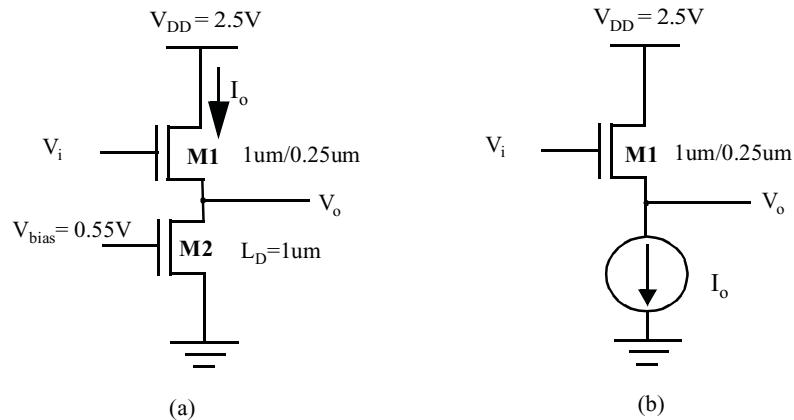

Figure 5.7 NMOS source follower configuration
9. The circuit in Figure 5.7 is known as the *source follower* configuration. It achieves a DC level shift between the input and the output. The value of this shift is determined by the current I_0 . Assume $x_d=0$, $\gamma=0.4$, $2|\phi_f|=0.6\text{V}$, $V_{T0}=0.43\text{V}$, $k_n'=115\mu\text{A}/\text{V}^2$ and $\lambda=0$.
- a. Suppose we want the nominal level shift between V_i and V_o to be 0.6V in the circuit in Figure 5.7 (a). Neglecting the backgate effect, calculate the width of M2 to provide this level shift (Hint: first relate V_i to V_o in terms of I_o).
- b. Now assume that an ideal current source replaces M2 (Figure 5.7 (b)). The NMOS transistor M1 experiences a shift in V_T due to the backgate effect. Find V_T as a function of V_o for V_o ranging from 0 to 2.5V with 0.5V intervals. Plot V_T vs. V_o .